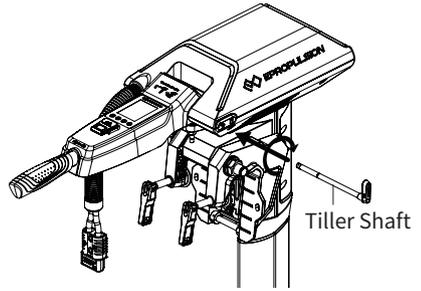

Figure 2-5
2. Insert the handle shaft into the hole to the end and lock it clockwise (Figure 2-5).